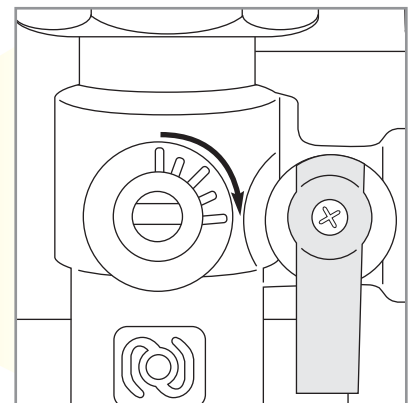

Figure 4-2: Closing Filling/Shut off valve to prepare to fill system
To enable filling/flushing of the system, the Filling/Shut-off valve must be rotated fully 90° clockwise. Refer to Figure 4-2. This will divert the flow from the filling station, entering the system via the Filling flow valve, through the pump, up to the collectors, through the coil of the cylinder and back to the filling station via the Filling return valve.
- Using a small spanner, rotate the Filling/Shut-off valve 90° clockwise. Refer to Figure 4-2 (page 10).